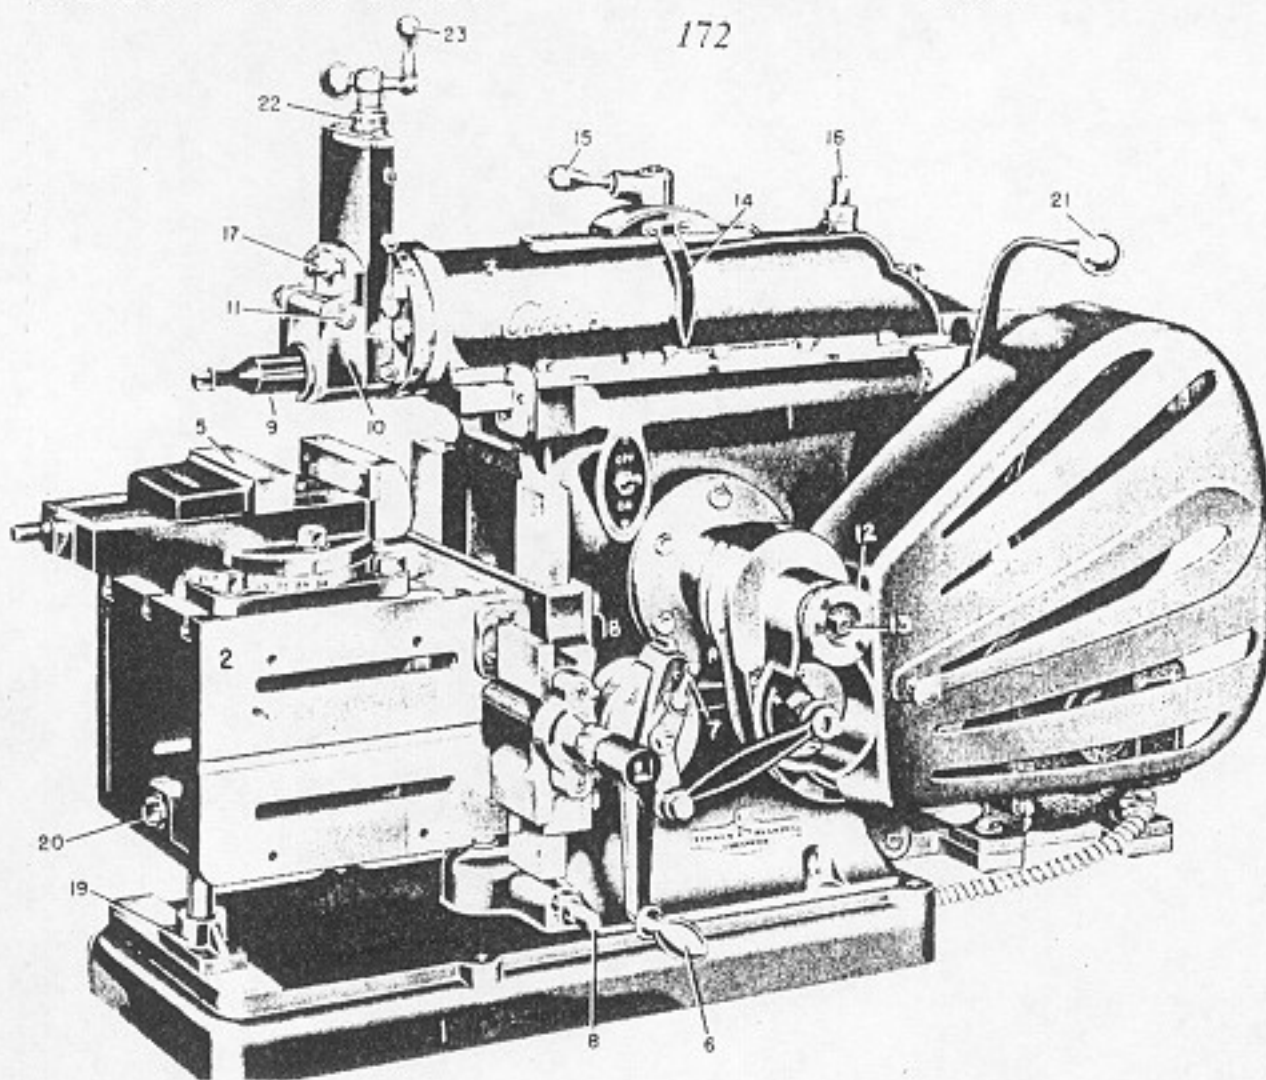

Fig. 13-40. 7-inch Bench Shaper. (Courtesy Atlas Press Co.)
The shaper is used primarily for the shaping of metal surfaces. The work is held in a vise or clamped to the table. The cutting tool moves back and forth across the metal, cutting only on the forward stroke. As the tool moves backward, or just before it starts its forward movement, the table on which the vise is fastened moves sideways across the front of the shaper. This moves the metal into position for the next cut. In Fig. 13-40 is illustrated a 7-inch bench shaper. In studying this illustration, you will see that a shaper is made up of four main parts: (1) the column and base, (2) the table, (3) the ram, and (4) the tool head. All shapers, regardless of size, are similar in construction.
set in a vertical position, with a small amount projecting down from the bottom of the clapper box as shown in Fig. 13-47a. After setting the tool, adjust the clapper box by loosening the clapper box bolt 17 (see Fig. 13-40), and move the top of the box until it slants slightly away from the cutting edge of the tool. After setting the clapper box, be sure to check the tool to see that it is still in a vertical position. A careful study of Fig. 13-48 will illustrate to you the right and wrong ways of setting the tool and the clapper box. After setting the cutting tool, set the length of the stroke and then position the stroke to the work as previously explained.
face to be machined. Loosen the gib bolts 18 (see Fig. 13-40). By turning the lift shaft 8, raise the shaper table until the top surface of the metal is about one inch below the bottom of the ram. Tighten the gib bolts. Lower the outboard table support 19, and lock it by tightening the outboard support bolt 20. You are now ready to turn on the switch and start the ram by moving the engagement lever 21. As the ram is moving back and forth, carefully turn the tool slide ball crank, lowering the tool until it just touches the surface to be machined. Move the table to the left by turning the table crank until the work has been moved out from under the cutting tool. Set the tool slide dial 22 at 0. When this has been done and as you turn the crank 23, you can read in thousandths of an inch how much you are lowering the cutting tool. The depth of the first cut is governed by the amount of metal to be removed and by the power of the shaper. The initial cut is a roughing cut, as shown in Fig. 13-49. This cut is taken to bring the work to within a few thousandths of an inch of its fin-